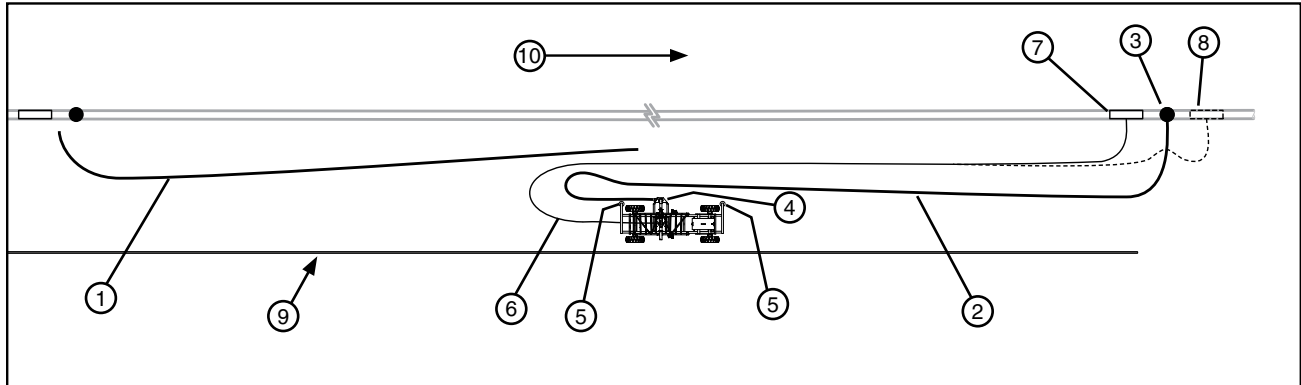

Figure 51-1
- If more than one hose is being used, disconnect first hose from side inlet. Connect second hose to next pipeline shut off valve, position second hose, connect and secure to side inlet. See Figure 51-1.
- (c) Position the electric cord far enough away from the hose, so that the hose will not drag over it. To prevent interference between the electric cord, cart tires and hose, bury the electric cord in the area where interference will occur or when applicable, position the electric cord over the top of hose. See Figure 51-1.